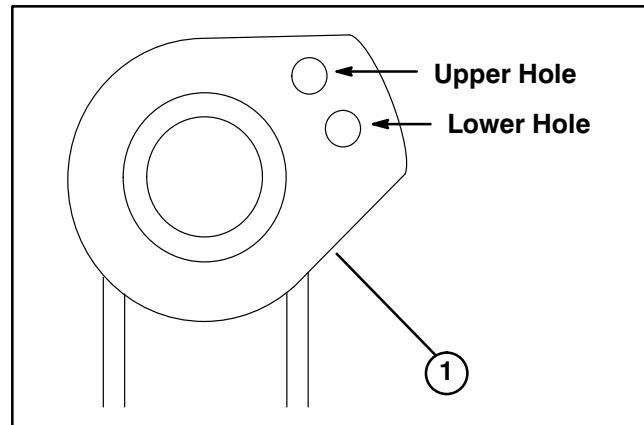

Figure 32
1. Hook one end of spring into appropriate hole in cutting unit lift tab (Fig. 32) as follows: